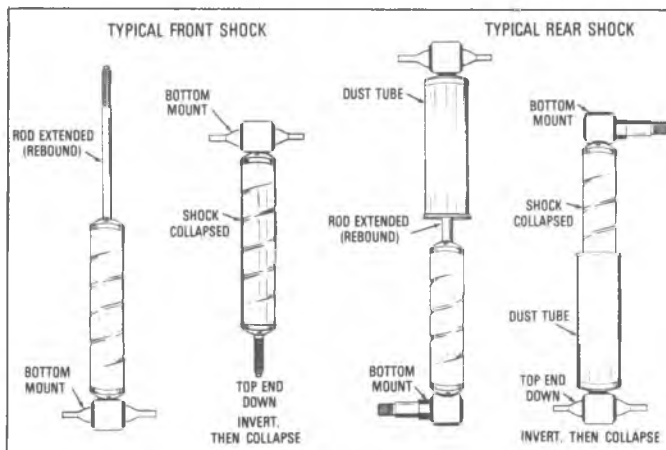

Fig. 46—Position for Purging Air From Shocks
**IMPORTANT:** If this type of shock has been stored or allowed to lay in a horizontal position for any length of time, an air void will develop in the pressure chamber of the shock absorber. This air void if not purged, can cause a technician to diagnose the shock as defective. To purge the air from the pressure chamber, proceed as follows: (Refer to figure 46)
- (c) Repeat Steps (a) and (b) at least five (5) times to assure air is purged.